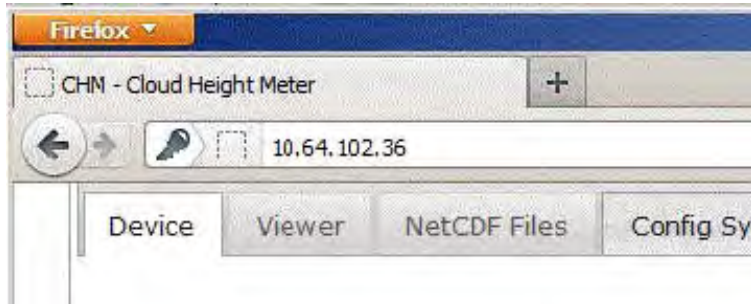

Figure 14 Firefox browser for a connection with the CHM 8k (shown here with fixed IP address).
One of the 3 IP addresses can be entered into a web browser (see Figure 14) for communication with the device. Figure 18 shows the "Config Network" tab in the Internet browser Firefox. Changing the user IP address (3) requires superuser authorization in the device tab.